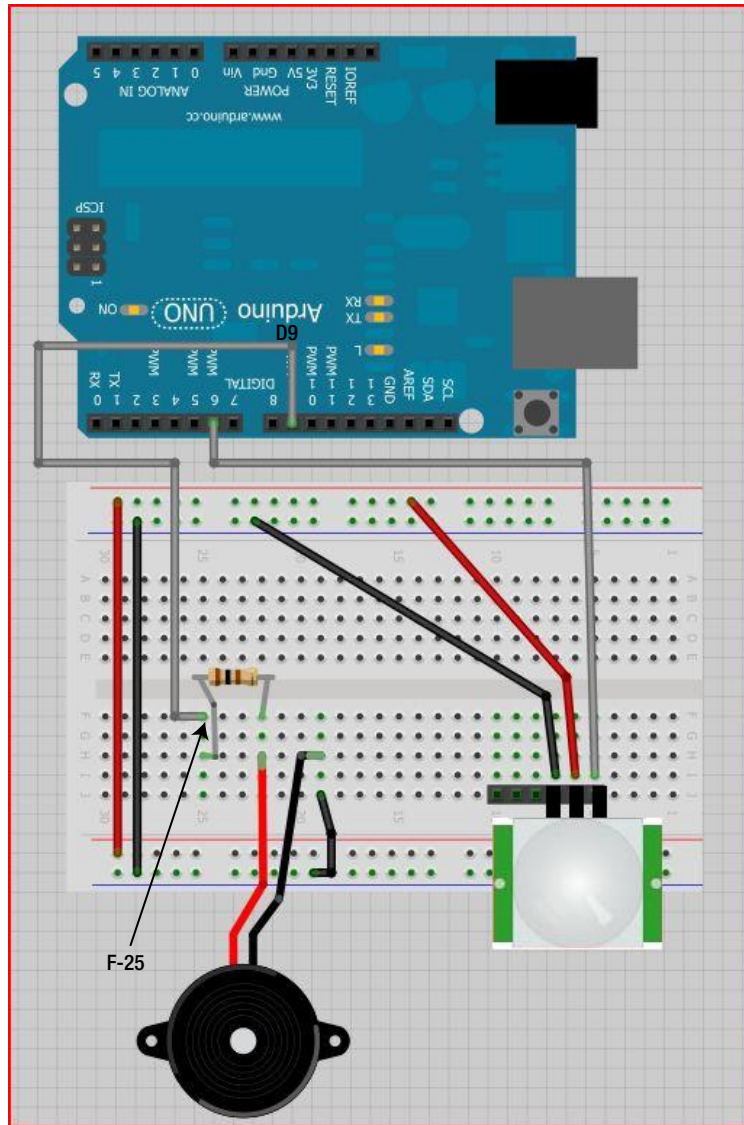

Figure 19-12. Connect the 100-ohm resistor to digital pin 9 of the Arduino
11. Next, connect digital pin 9 (D9) of the Arduino to F-25. This connects D9 to the 100-ohm resistor. Figure 19-12 illustrates this process.